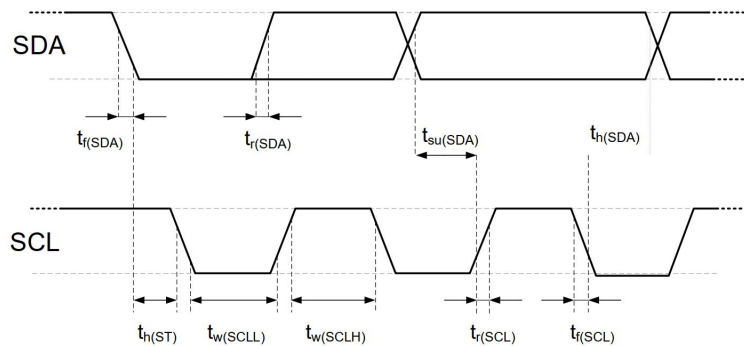

Figure 9. Timing diagram of digital input / output
The SDA pin is used for data input and output of the sensor. When sending a command to the sensor, SDA is valid on the rising edge of the serial clock (SCL), and when SCL is high, SDA must remain stable. After the falling edge of SCL, the SDA value can be changed. To ensure communication safety, the effective time of SDA should be extended by  $T_{SU}$  and  $T_{HO}$  before the rising edge and after the falling edge of SCL refer to Figure 9. When reading data from the sensor, SDA is valid (TV) after SCL goes low, and is maintained until the next falling edge of SCL.
Electrical characteristics, such as power consumption, input and output high and low voltages, etc., depend on the power supply voltage. In order to make the sensor communication smooth, it is very important to ensure that the signal design is strictly limited to the range given in Table 7, 8 and Figure 9).
The meaning is shown in Figure 9. Unless otherwise noted